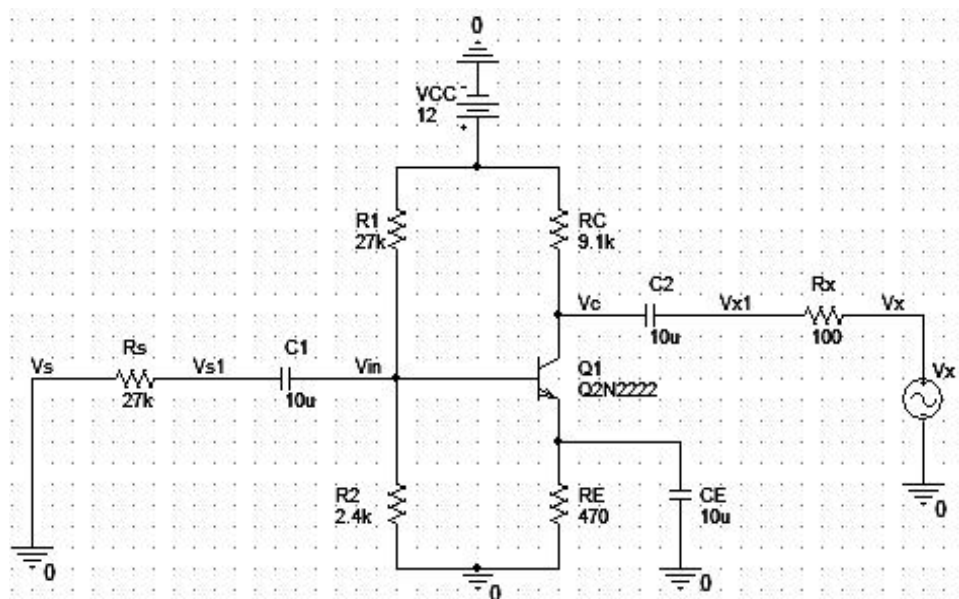

Figure 4: Setup for measuring the output resistance of the common emitter amplifier
17. Now repeat the procedure in step 14 to measure the amplifier's output resistance, this time by removing R_L , deactivating the input source and connecting V_X and R_X to the amplifier's output as shown in figure 4.